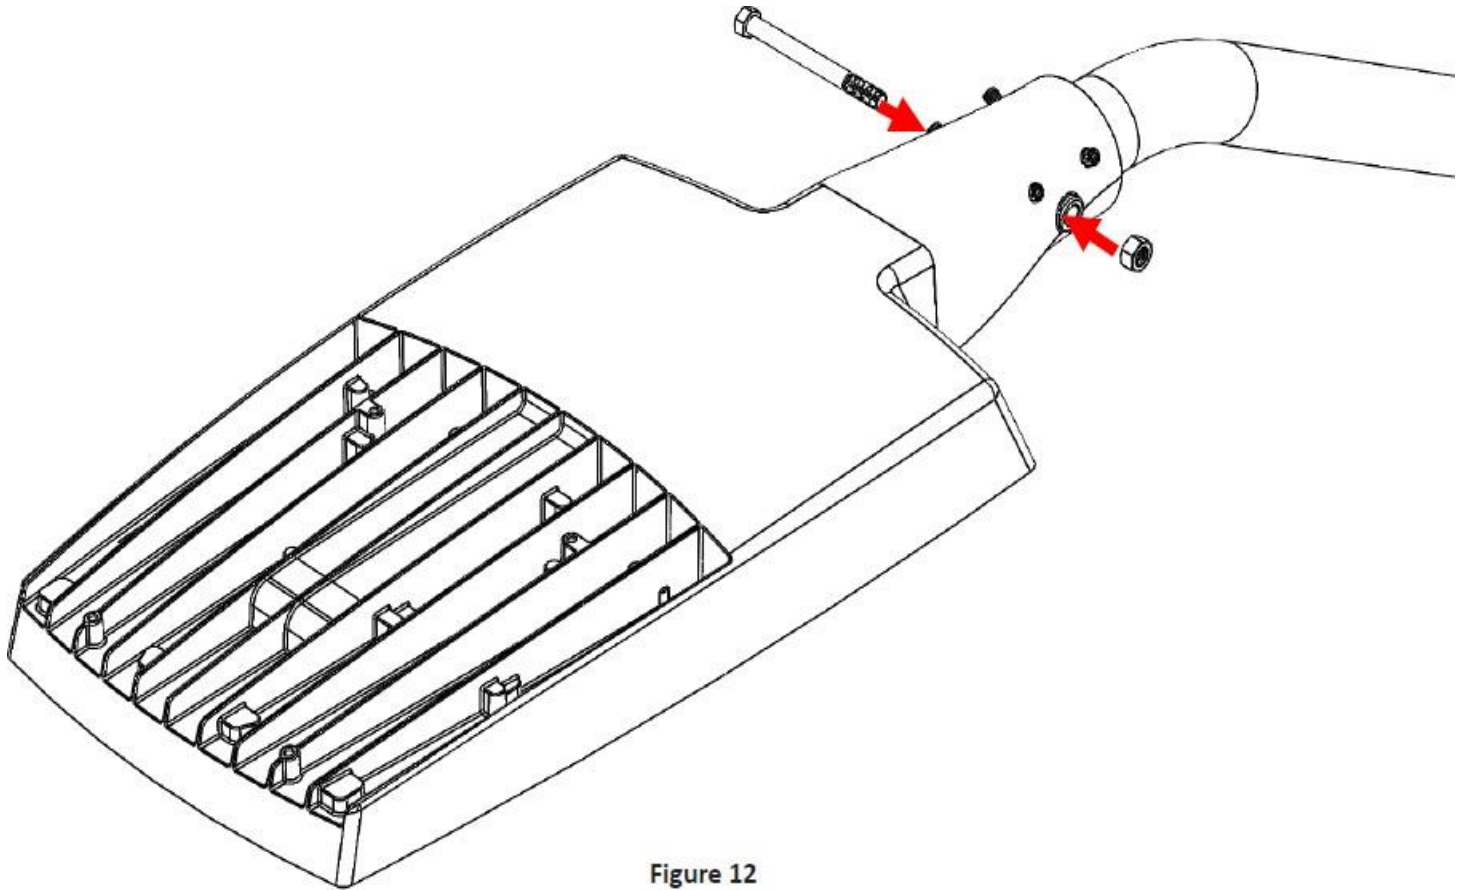

Figure 12
8. Reorient luminaire to desired position on the tenon and Insert provided 7/16"-14 x 4-1/2" bolt through Mast Arm Mount and drilled 1/2" \varnothing hole on tenon and place provided 7/16" nut onto bolt (see figure 12) and tighten securely to 45-50 ft-lbs.
9. Evenly tighten the Six (6) 3/8-16 UNC Mast Arm Set Bolts while maintaining the correct position of the luminaire to 13 ft-lbs.